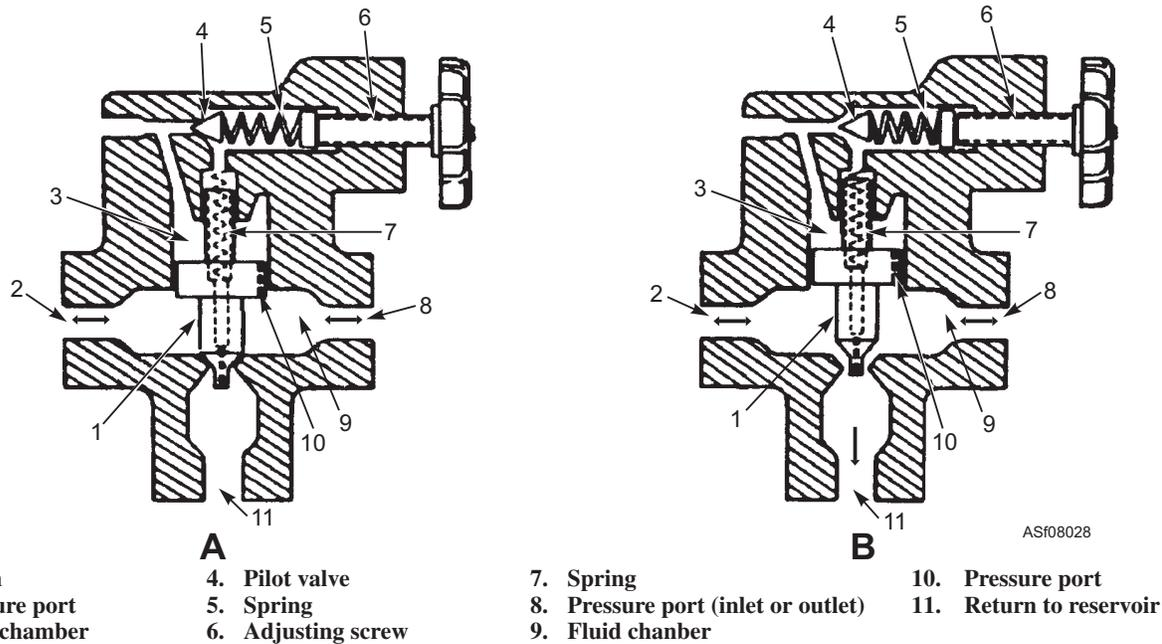

Figure 8-28.—Pilot-operated relief valve.
**PILOT-OPERATED RELIEF VALVES.**—A more complex relief valve is the pilot-operated relief valve, shown in figure 8-28. View A shows the relief valve in the closed position. View B shows the valve in the open position. In the closed position, fluid at system pressure flows through the inlet port (2 or 8), around the piston (1), and out the outlet port (2 or 8). (Inlet and outlet ports may be used interchangeably when the valve is mounted in the pressure line, or one port may be plugged when the valve is connected with a “tee” fitting off the pressure line.)